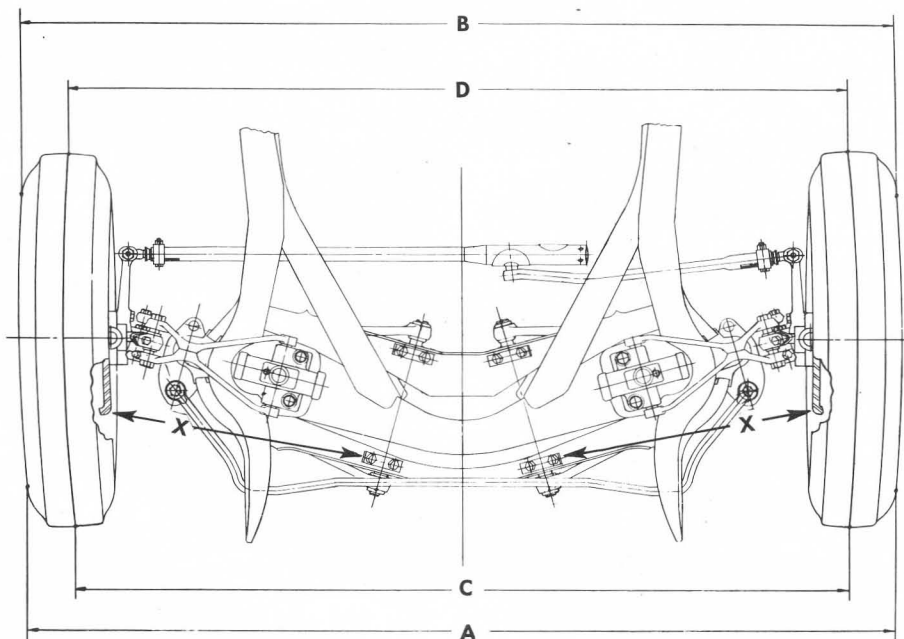

Figure 6-38—Front Wheel Toe-in
on each side. Adjust tie rods, if necessary, to make measurements equal on both sides. See figure 6-38 dimensions "X."
3. Using a suitable toe-in gauge, measure the distance between outside walls of tires at the front at approximately 10" from the floor. See figure 6-38 dimension "A." Mark points where gauge contacts tires. NOTE: An accurate check also can be made by raising and rotating front wheels to scribe a fine line near the center of each tire, then, with tires on the floor and front spring trim height correct, measure between scribed lines with a suitable trammel. See figure 6-38, dimension "C."
4. Roll the car forward until measuring points on tires are approximately 10" from the floor at the rear, and measure the distance between points used in Step 3 above. The measurement at the front (dimension "A" or "C") should be  $\frac{1}{16}$ " to  $\frac{1}{8}$ " less than the measurement at the rear (dimension "B" or "D"). See figure 6-38.